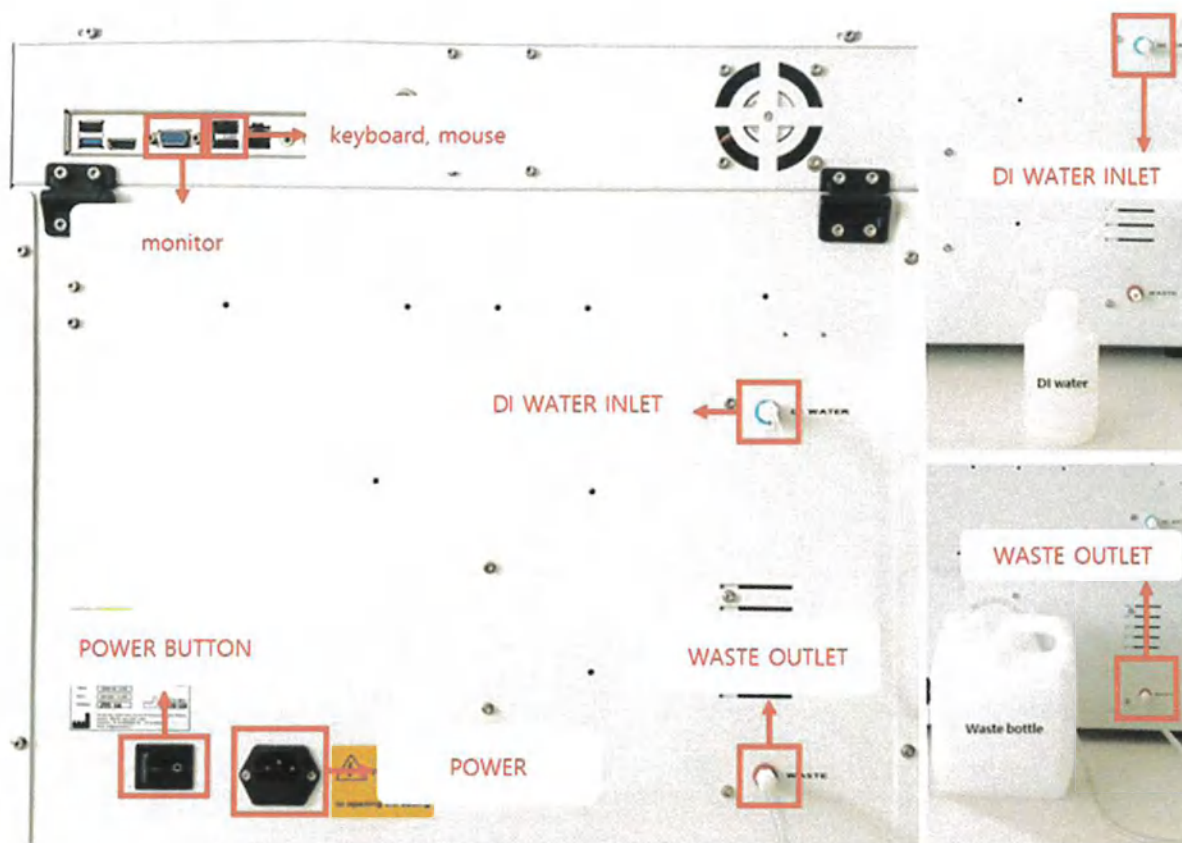

Figure 2
7.9 Connecting personal computer and pipes (Figure 2)
5 Turn on the Device using the POWER BUTTON on the rear panel (Figure 2).